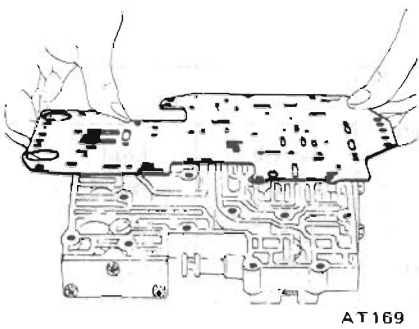

Fig. AT-102 Removing separate plate
2. Remove attaching bolts. With bolts removed, lower valve body, separate plate, and upper valve body are free for removal. See Figure AT-102